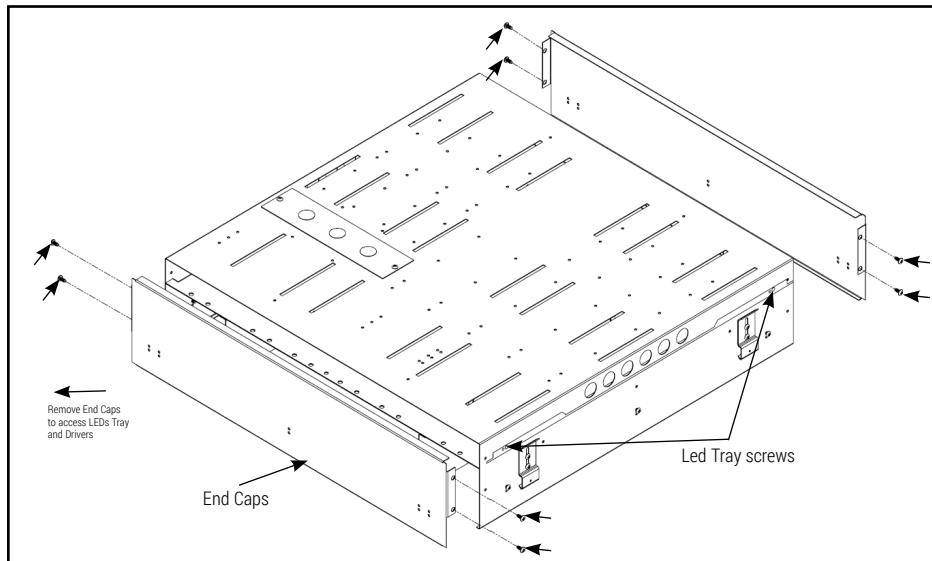

Figure 6.
2. Remove End caps, 8 screws 2 per side. Remove LED tray, 4 screws 2 per side. Silde LED tray towards open end to access Driver. (Figure 6)